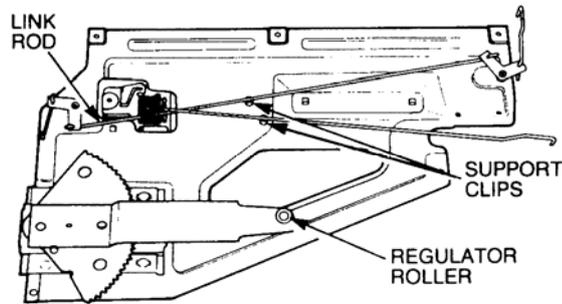

**Figure 21 Rear Side Door Trim Removal**
- k. Remove the trim (refer Figure 21).